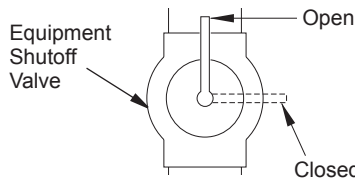

Figure 22 - Equipment Shutoff Valve
1. Close equipment shutoff valve (see Figure 22).
1. Open equipment shutoff valve (see Figure 22, page 16).